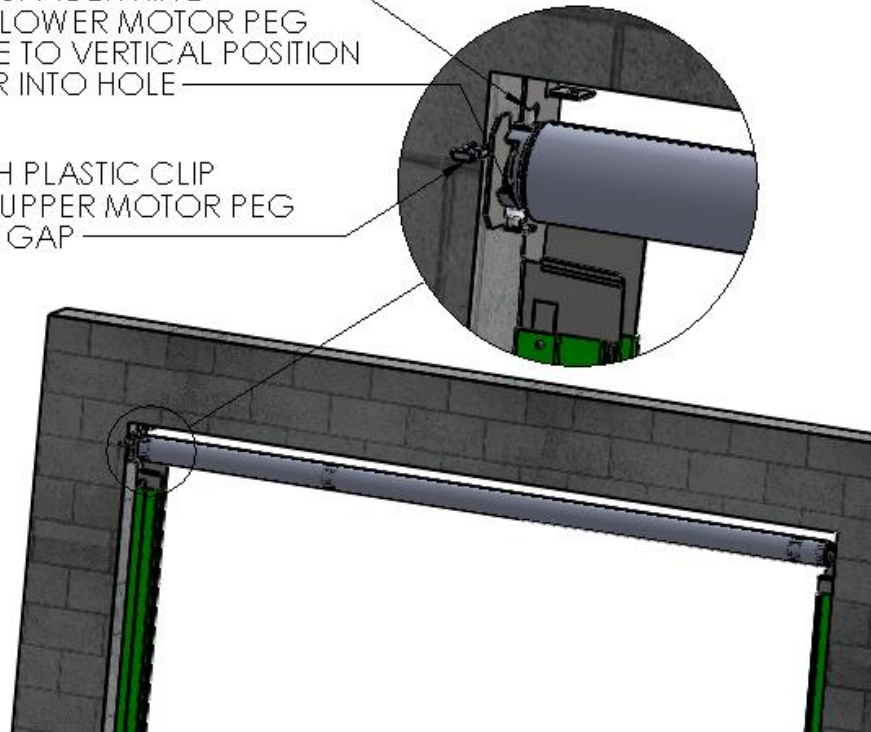

Figure 6 INSTALL L.H. MOTOR SIDE OF HEADER ASSEMBLY
2. At the left side, push the Header Assembly toward the Idler side to compress (spring loaded) Idler Shaft, and insert the Upper Motor Peg fully into upper hole of L.H. Header Mounting Bracket. (Figure 6 INSTALL L.H. MOTOR SIDE OF HEADER ASSEMBLY)
3. Slip the plastic Ring onto Lower Motor Peg, and insert the Lower Motor Peg into lower hole on the Header Mounting Bracket. (Figure 6 INSTALL L.H. MOTOR SIDE OF HEADER ASSEMBLY)
4. Insert the plastic Clip onto Upper Motor Peg to fill space between the Bracket and Motor. (Figure 6 INSTALL L.H. MOTOR SIDE OF HEADER ASSEMBLY)